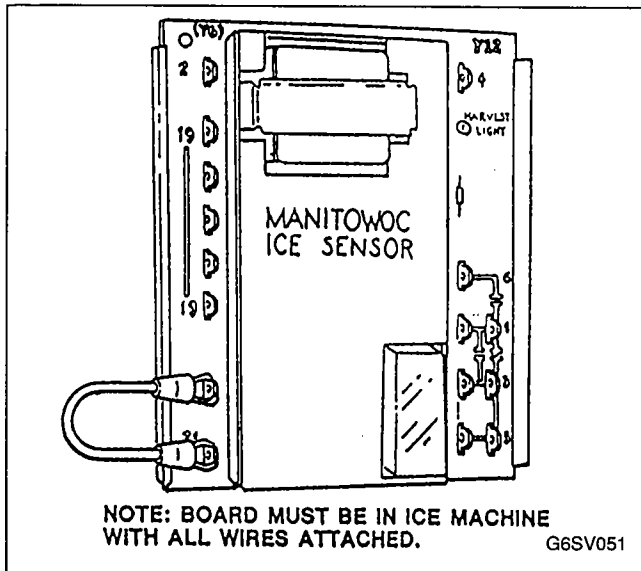

FIGURE 60. UNITIZED SENSOR BOARD
Step 3: Disconnect wires from terminals 20 and 21 on board. Connect jumper wire to terminals 20 and 21, Figure 60.